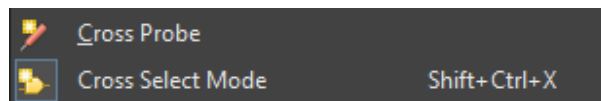

Figure 13. Blue highlighted icon indicating Cross Select mode is enabled
38. Enable Cross Select Mode from **Tools » Cross Select Mode**. If the icon has a blue outline around it, then Cross Select Mode is already enabled as shown in Figure 13.